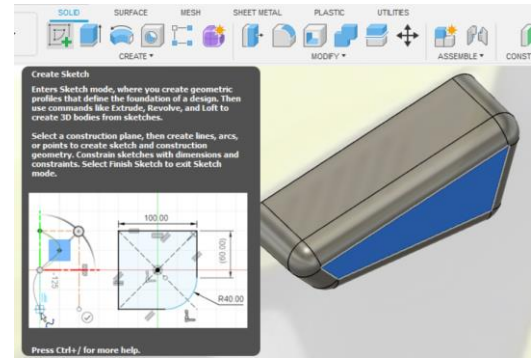

Figure 11. Create a new sketch
12. Create Center to Center slots as pictured in Figure 11. Apply the appropriate dimensions and constraints to fully define the slots.